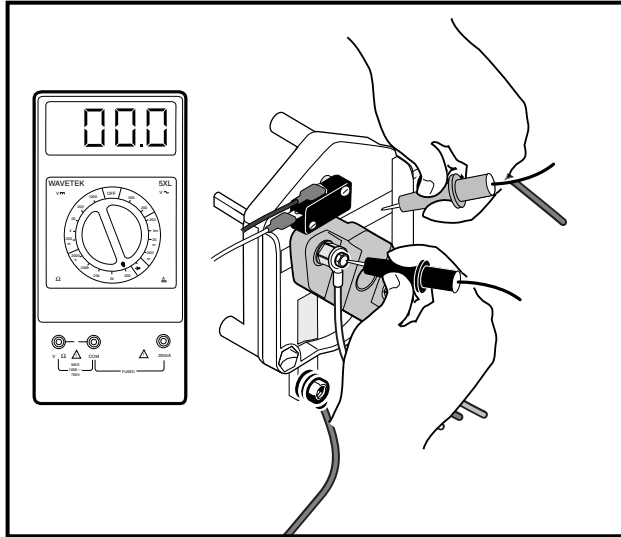

Figure 11-13 Forward/Reverse Switch Test – Step 2.3
- 2.3. With the Forward/Reverse switch in the REVERSE position, place the red (+) probe on the common terminal lug (with brown wire attached) of the Forward/Reverse switch, and place the black (–) probe on the movable contact (with the white wire attached) on the forward and reverse rotor (**Figure 11-13, Page 11-13**). The reading should be continuity.